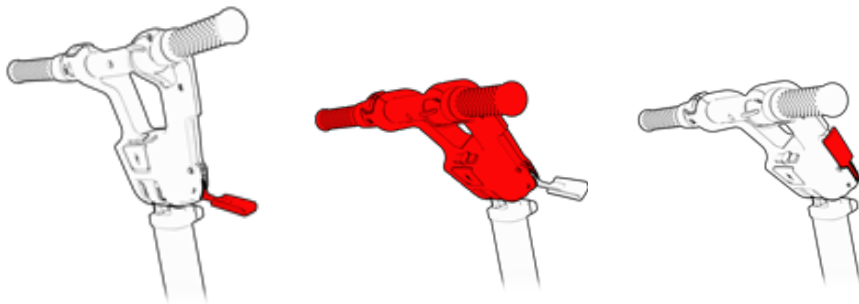

Figure 23 Driving Console tilt adjustment
1. Hold the driving console in one hand and release the adjustment lever using the other hand (see Figure 23, step 1).
2. Adjust the driving console angle so that you can reach and hold it comfortably with a clear view of the display area (see Figure 23, step 2).
3. Tighten the adjustment lever once you're satisfied with the angle (see Figure 23, step 3).